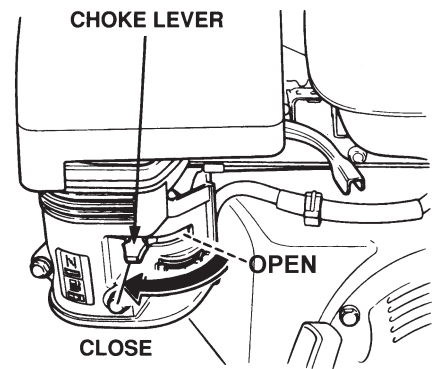

Figure 13. Choke Lever
3. Place the **Choke Lever** (Figure 13) in the "**CLOSED**" position.